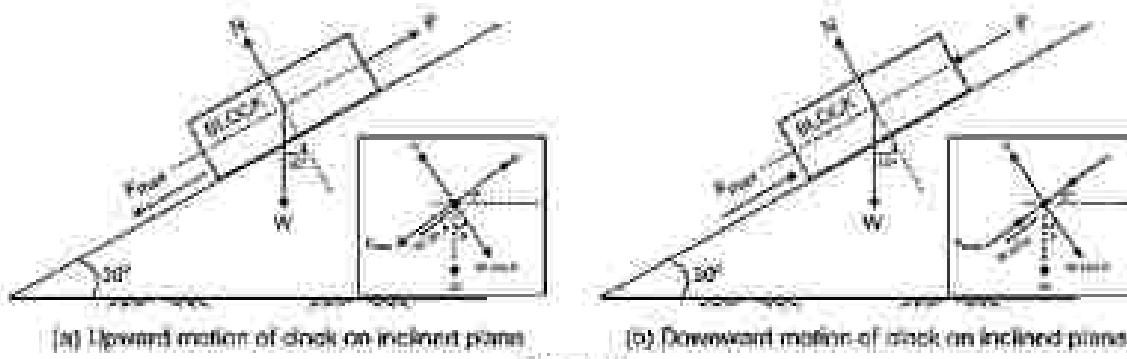

Fig. 3.11
(A) Block motion (move) upward on inclined plane surface : [Fig. 3.11(a)]
(B) Block motion (move) downward on inclined plane surface : [fig. 3.11(b)]